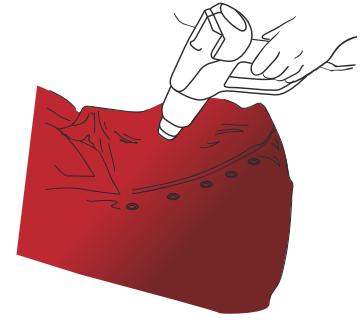

Fig.19
- › Next heat each rivet again to 80 to 90 °C (176 to 194 °F) (FIG. 19).